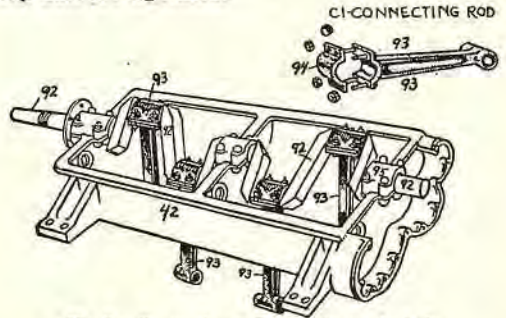

Fig. 3. Connecting rods fitted to crank shaft.
The connecting rods (93) (Fig. 3) are now fitted to the crank shaft. The lower half of the large end of the connecting rod, called the connecting-rod cap (94), is removed, so that it can be fitted to the crank shaft. Shims are inserted, so that it works free on the crank shaft. Then the nuts are drawn good and tight, so that there will be no lost motion. If there was lost motion a knock or pound, which would cause wear, would result.
The fly wheel (44) and starting crank (43) are fitted to opposite ends of the crank shaft. By referring to Fig. 3 (92), the reader will note that the end of the crank shaft tapers, and a flange is also turned on this crank shaft. The fly wheel fits to this taper and bolts to the flange, as there must positively be no lost motion.